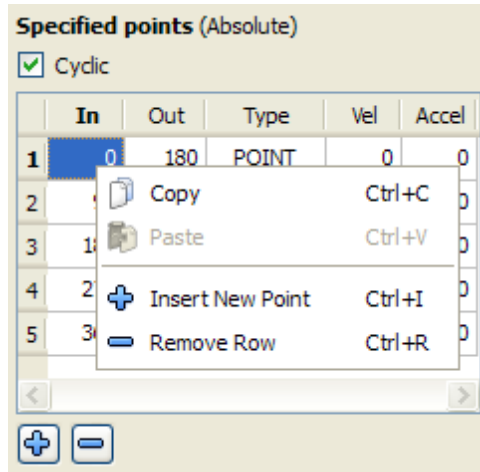

Figure 9-8: Cam Table Contextual Menu
- Use the menu in the cam table (shown in "Figure 9-8: Cam Table Contextual Menu " on page 341)